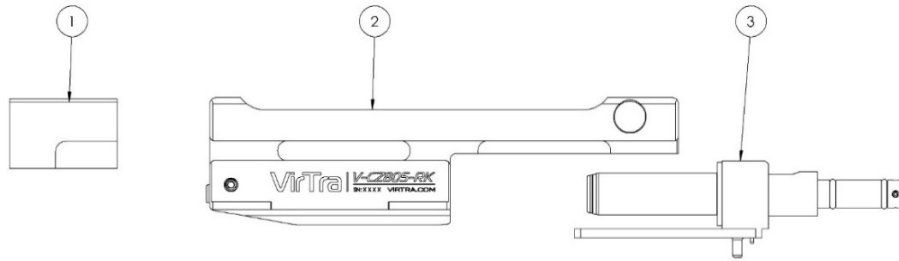

Figure 1: Recoil Kit Assembly
- Install the charge chamber assembly by sliding the Charge Chamber (Figure 1, #3) into the firearms chamber. Ensure that the nipple and retaining plate are facing out of the firearm receiver frame (Figure 9).